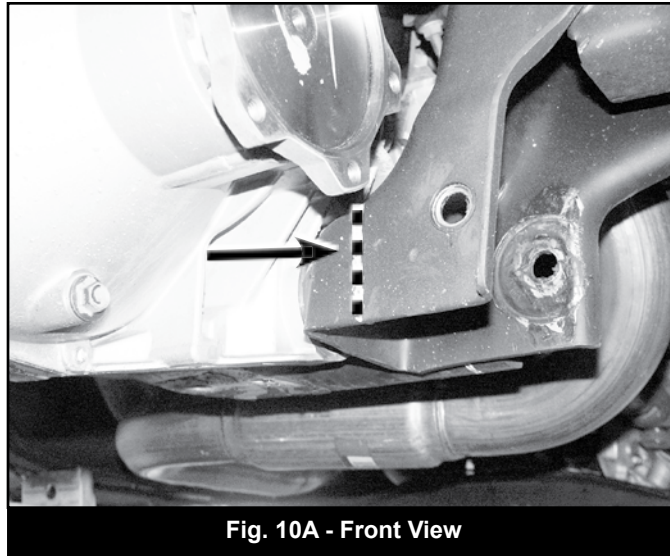

Fig. 10A - Front View
32. The driver's side rear differential mount must be removed. Measure from the backside of the control arm pocket 1-3/4" and make a vertical cut line around the entire pocket (Fig 10A, 10B). Using a sawzall, die grinder or plasma cutter, remove the differential mount from the frame. Note: Always check for fuel lines and/or electrical wires before cutting. Undercoating is flammable. Keep a fire extinguisher close by for safety.